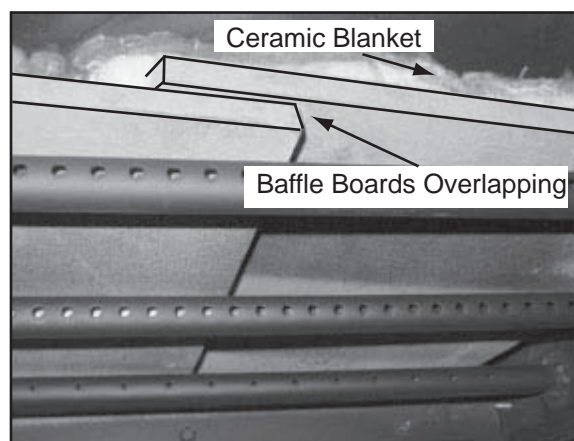

Figure 23.3
3. Once the baffle protection cover has been removed, pull the baffle boards and ceramic blanket forward about 1 inch (25mm) and then overlap the baffles about 1-2 inches (25-51mm). **Figure 23.3**.